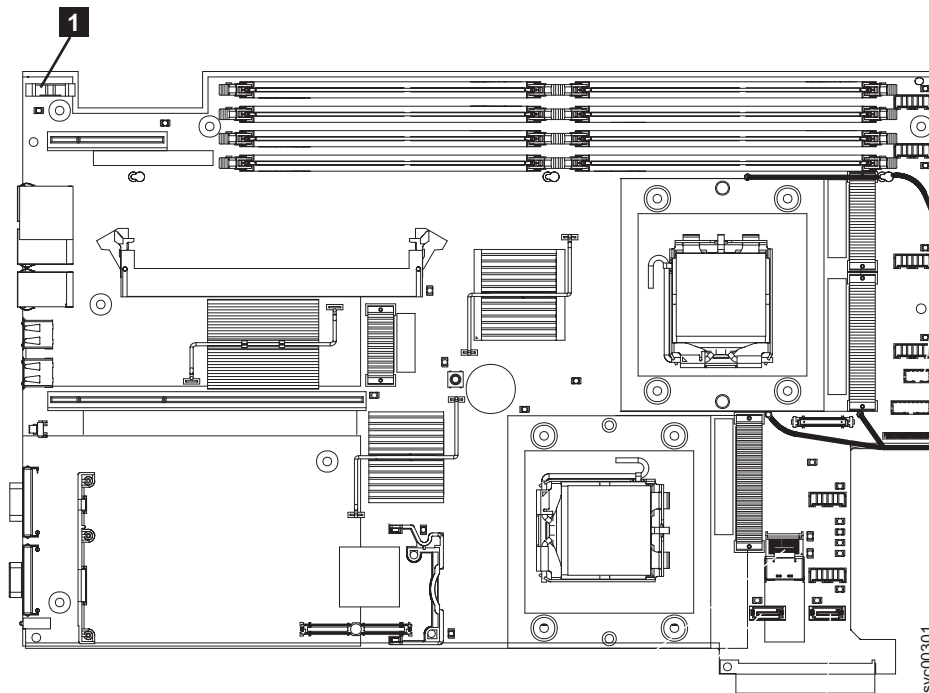

Figure 133. Location of the SAN Volume Controller 2145-8G4 CMOS battery holder
4. Locate the battery **1** on the system board. Figure 133 shows the location of the battery.